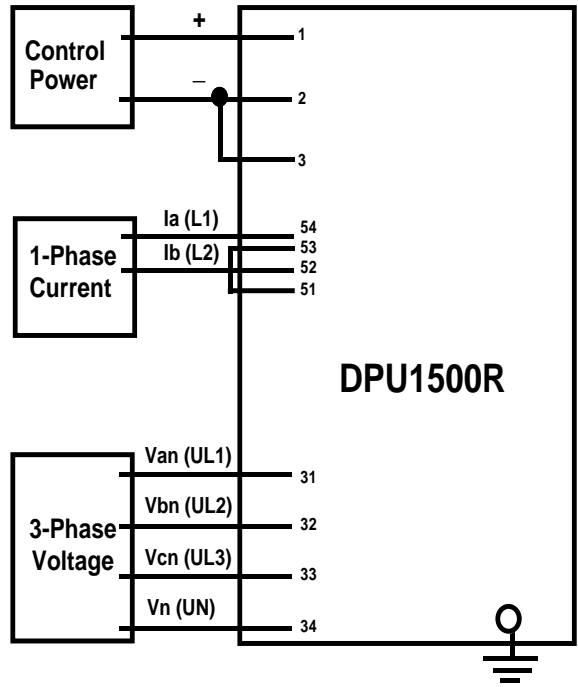

Figure 11-3. Test Circuit for Time Overcurrent, 50P-1 (3I>>1), 2-Phase 50P(3I>>) and 46 (Insc>) Functions
1. Connect the DPU1500R as shown in Figure 11-3.
- a. Connect the DPU1500R as shown in Figure 11-3.
- b. Connect the DPU1500R as shown in Figure 11-3.
- b. Connect the test set as shown in Figure 11-3.
4. Apply the following currents as shown in Figure 11-3: